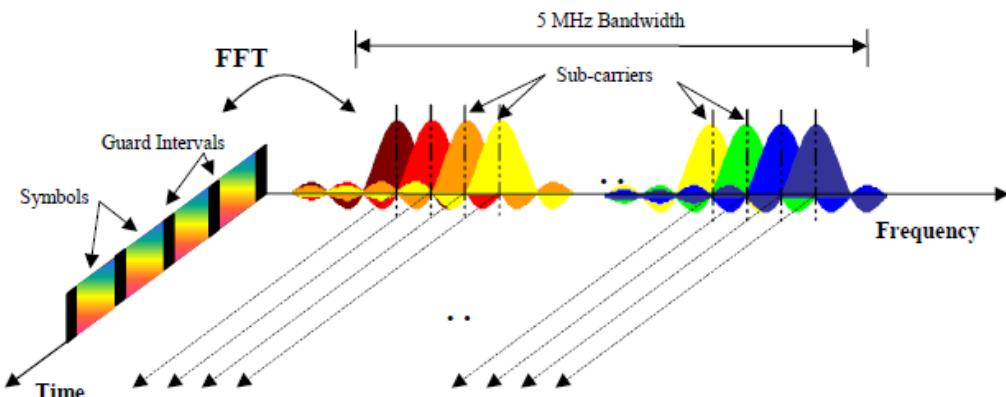

Fig. 1-1: Frequency-Time Representation of an OFDM Signal
figure 1-1 shows a representation of an OFDM signal taken from 3GPP TR 25.892 [2]. In this figure, a signal with 5 MHz bandwidth is shown, but the principle is of course the same for the other EUTRA bandwidths. Data symbols are independently modulated and transmitted over a high number of closely spaced orthogonal subcarriers. In EUTRA, downlink modulation schemes QPSK, 16QAM, and 64QAM are available.
The vector s_m is defined as the useful OFDM symbol. It is the time superposition of the N narrowband modulated subcarriers. Therefore, from a parallel stream of N sources of data, each one independently modulated, a waveform composed of N orthogonal subcarriers is obtained, with each subcarrier having the shape of a frequency sinc function (see figure 1-1).
One downlink slot consists of N_{symb}^{DL} OFDM symbols. To each symbol, a cyclic prefix (CP) is appended as guard time, compare figure 1-1. N_{symb}^{DL} depends on the cyclic prefix length. The generic frame structure with normal cyclic prefix length contains $N_{symb}^{DL} = 7$ symbols. This translates into a cyclic prefix length of $T_{CP} \approx 5.2\mu s$ for the first symbol and $T_{CP} \approx 4.7\mu s$ for the remaining 6 symbols. Additionally, an extended cyclic prefix is defined in order to cover large cell scenarios with higher delay spread and MBMS transmission. The generic frame structure with extended cyclic prefix of $T_{CP,E} \approx 16.7\mu s$ contains $N_{symb}^{DL} = 6$ OFDM symbols (subcarrier spacing 15 kHz). The generic frame